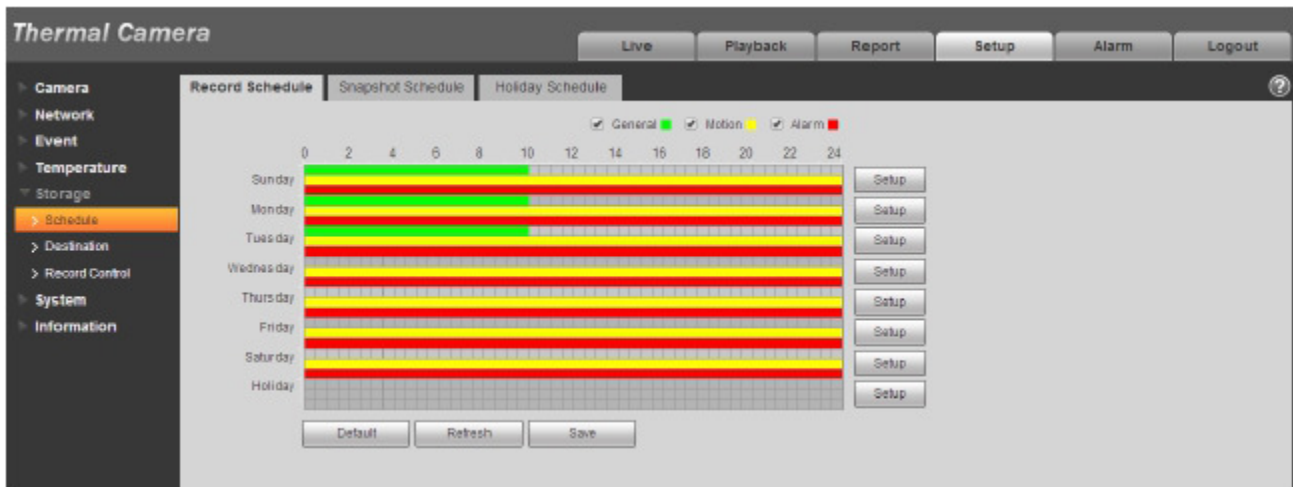

Figure 5-59
Step 3. Click on OK, return to record schedule interface. See Figure 5-59.